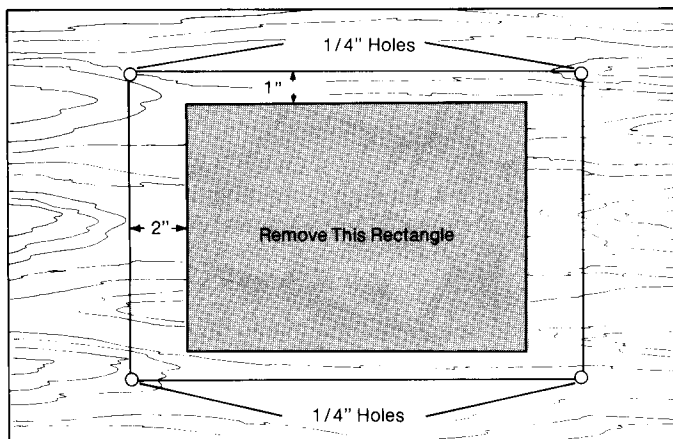

Figure 32
4. Connect the holes you drilled with pencil lines to form a rectangle like the one shown in **figure 32**. Measure in 1" from the long sides of the rectangle and 2" in from the short sides and draw the smaller rectangle centered inside the large one, as shown in **figure 32**.
5. Using a jig saw, or similar tool, cut out the smaller rectangle (shaded area in **figure 32**.) When you are using your Table Saw, place a receptacle under this hole to collect the sawdust produced by the saw.
- Using a jig saw, or similar tool, cut out the smaller rectangle. (shaded area in **figure 32**.)